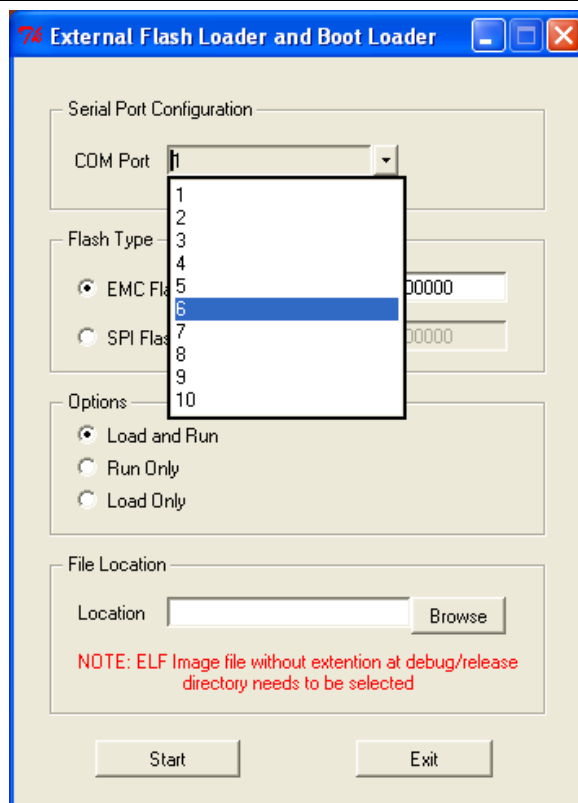

Figure 4-3 • COM Port Selection
6. Select a COM port to which the A2F500-DEV-KIT is connected from the drop-down list (Figure 4-3).